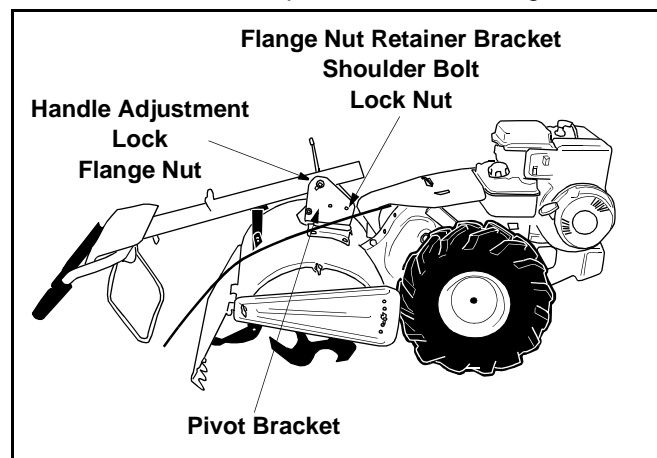

Figure 2
- Place the handle assembly in position in the handle pivot bracket lining the upper holes in the handle with the slots in the pivot bracket. See Figure 2.